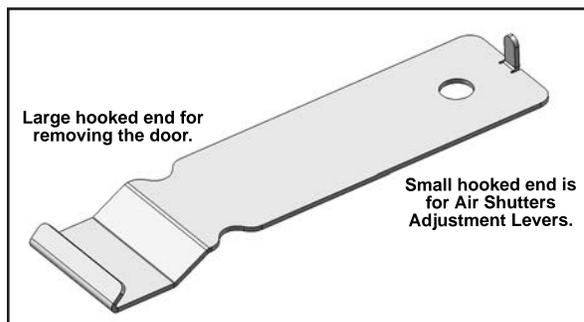
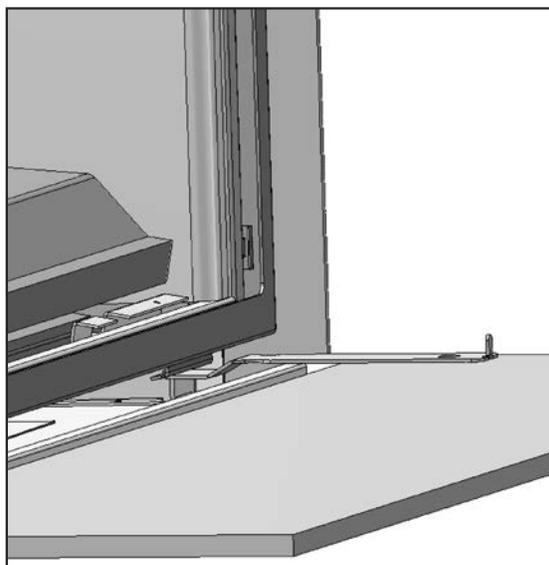

Figure 45: Door Latch / Air Adjustment Tool.
Figure 47: Door Latch Tool in Place.
- 1) The fireplace door is hung on two (2) hooks on the top of the firebox. The two (2) door latches at the bottom of the firebox hook over the tabs on the bottom of the door frame.
- 2) Lower the door latch tool underneath the door frame. Catch the lower door latch with the door latch tool (see Figure 45) and pull it out slightly, then down. Once the lower door latch clears the tab on the bottom of the door frame, release it inwards and then remove the door latch tool. Refer to Figures 47 & 48.